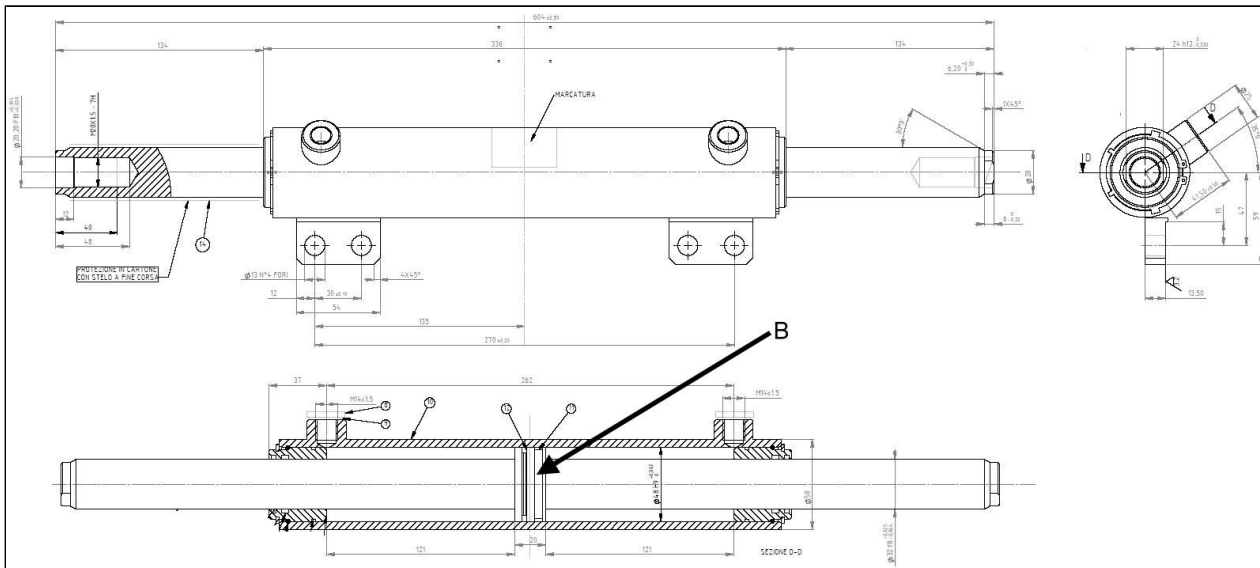
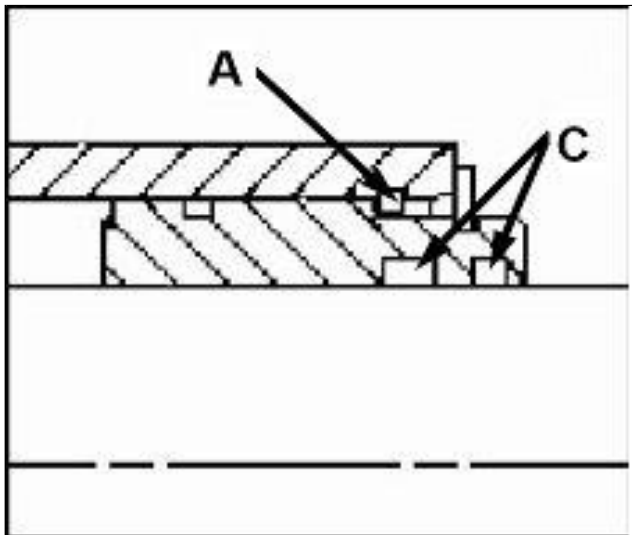

Fig.94
Fig.95
In case leakage or oil leakage is observed on the steering cylinder, whose aggregate is shown in Fig. 94, you can proceed with the replacement of the internal seals with a special "seal kit", which includes all gaskets and seals necessary for the review.
- the snap-ring off, move into the cylinder head end remove the retainer ring of the cylinder head by using a pair of pliers (see Fig. 95 item **A**);
Inb case of problems on the direction of the cylinder, replace the seals **B** of Fig. 94, while in case there are oil leaks outside of the cylinder or on the stem, replace the seals **C** Fig. 95